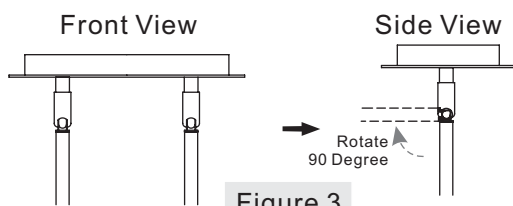

Figure 3
- Screw the Swivels into the top end of the Upper Rod. Please be sure the directions of two Swivels are the same before hand tighten until snug. This allows the lamp to adjust angles after assembly. (Refer to Figure 3)